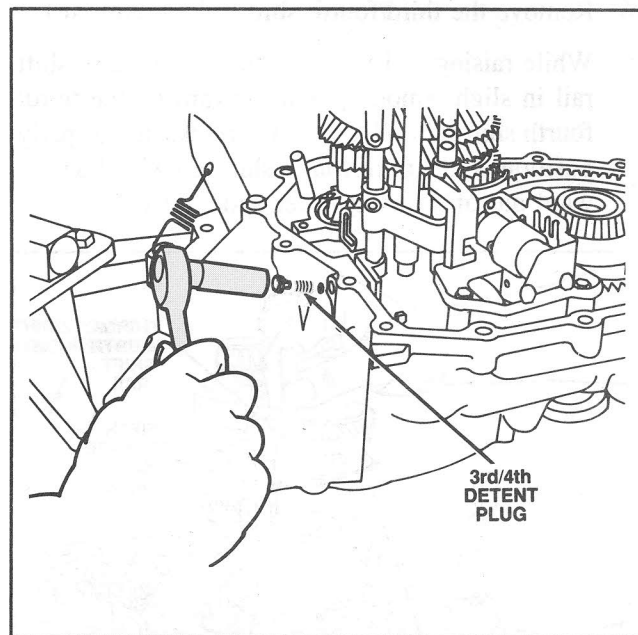

Figure 44 3rd/4th Detent Removal
14. Remove the third/fourth detent plug, spring and ball (longer spring) (Figure 44).